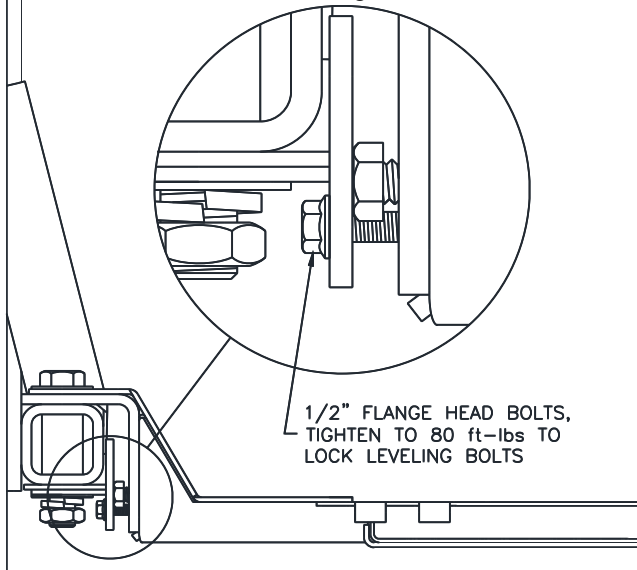

Fig. 5 LOCKING THE LEVELING BOLTS
5. Once the Pad is level and both Leveling Bolts are tight against the Lower Clevis Plate Backer, **tighten the 1/2" Flange Head Bolts to approximately 80 ft-lbs. (2 per side)**, **Fig. 5**. This will lock the two 3/4" Leveling bolts.